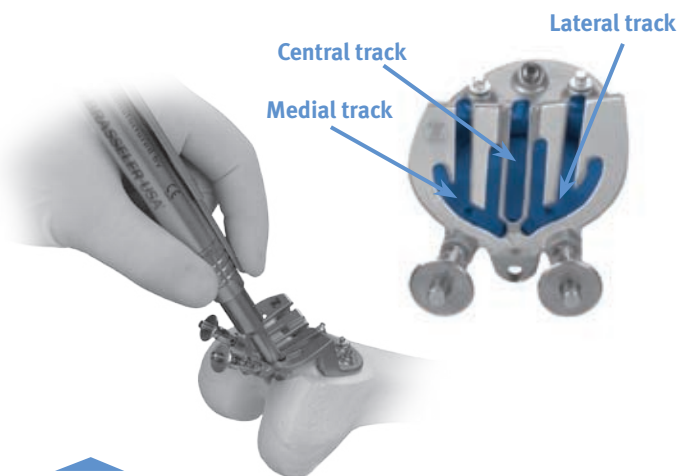

Fig. 38
- Mill the entire lateral track (all tracks in the lateral zone) (Fig. 38).